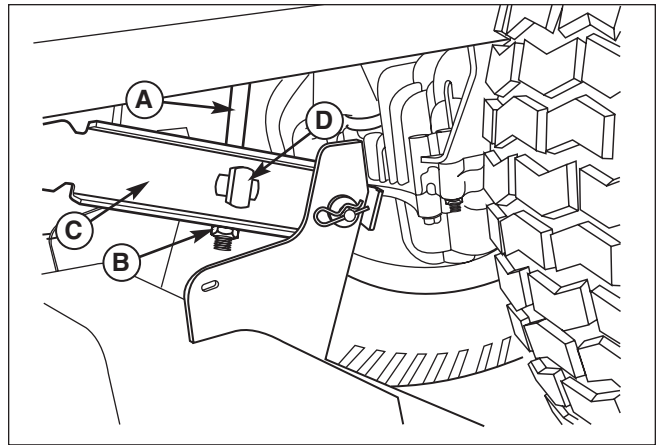

Figure 32. Remove Lift Rod
3. Remove the lift rod (A, Figure 32 & 33) from lift bar (C).